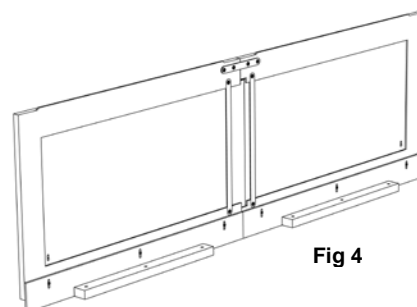

Fig 4
8. Position the floor braces so that its front face is on the line you have drawn on the floor and mark through the holes with a bradawl Fig 3 (Fig 4 shows the suggested positions along the length of the bath panel looking from the rear when bath panel is fully assembled)